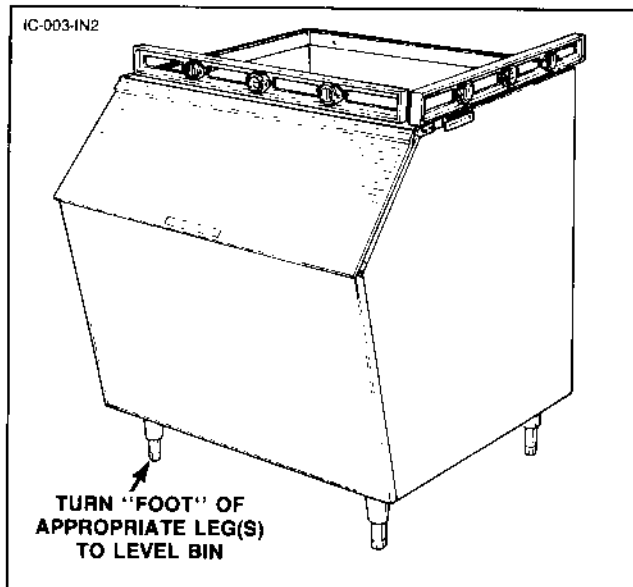

Figure 2
2. Level the bin to assure bin door closes and seals properly. Turn the "foot" of the appropriate leg(s) to level bin. Use level on bin top, Figure 2.